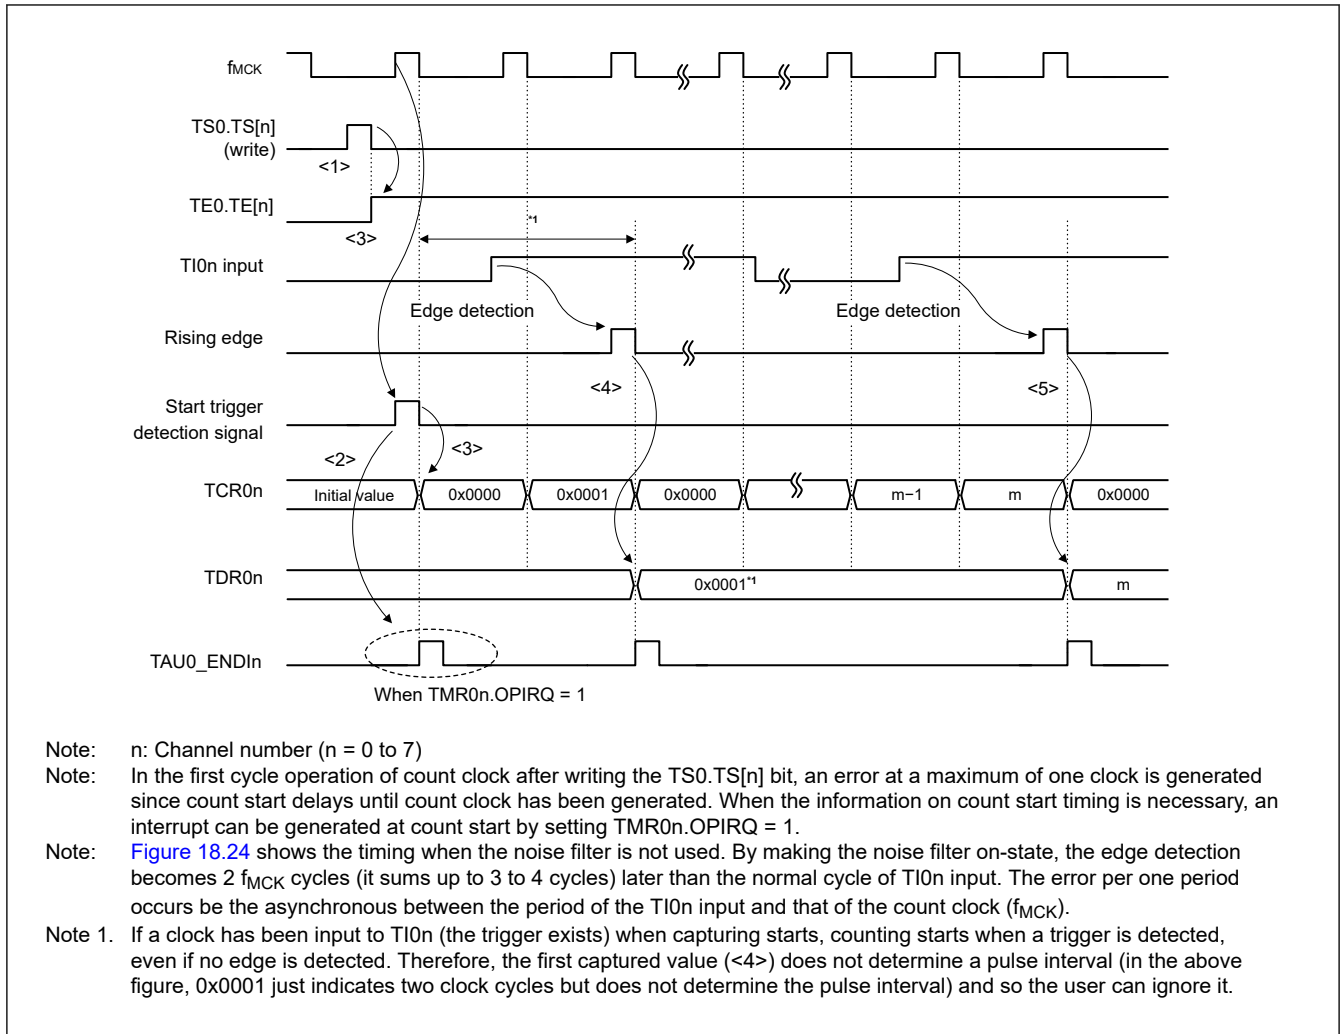

**Figure 18.23 Timing during operation in event counter mode**
- Figure 18.23 shows the timing during operation in event counter mode.